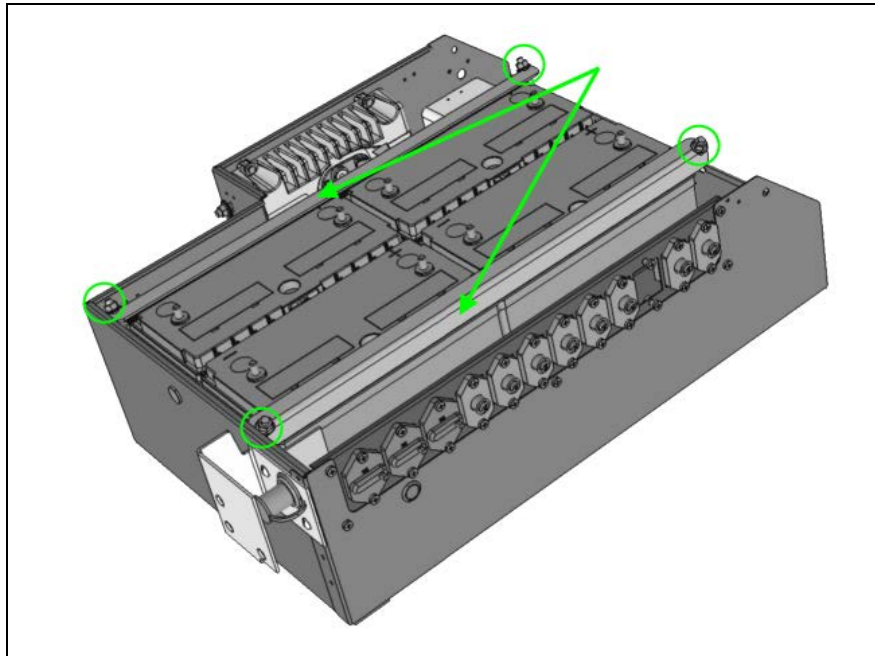

Fig.2 Retaining bars and hex nuts.
3. Remove the two (2) bars that maintain the batteries to the battery box (4 nuts Fig.2).